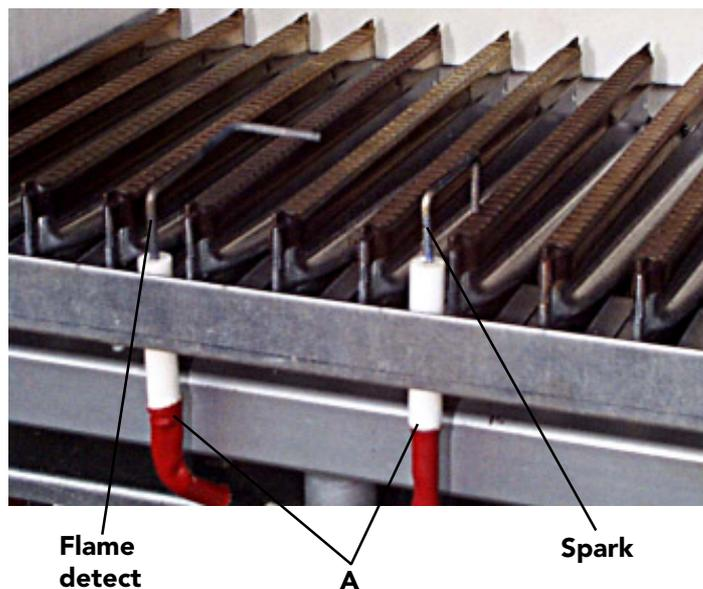

Fig. 31
(fig. 31)
- Identify electrode from fig. 31